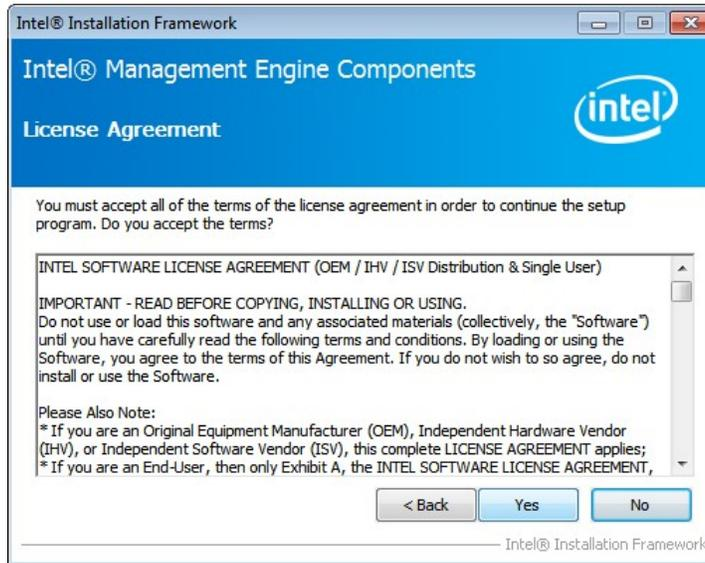

Figure 6-28: Intel® ME Driver License Agreement
Step 7: The license agreement in Figure 6-28 appears.